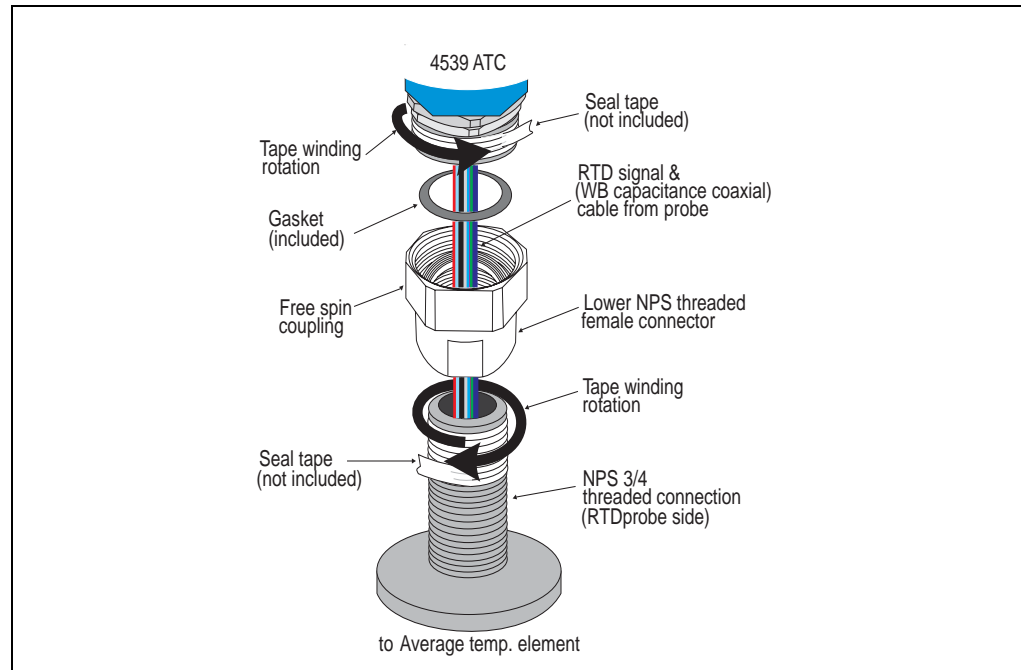

Figure 6-2: Threaded type connection
2. Wrap the RTD probe's threaded connection with seal tape (see Figure 6-2).